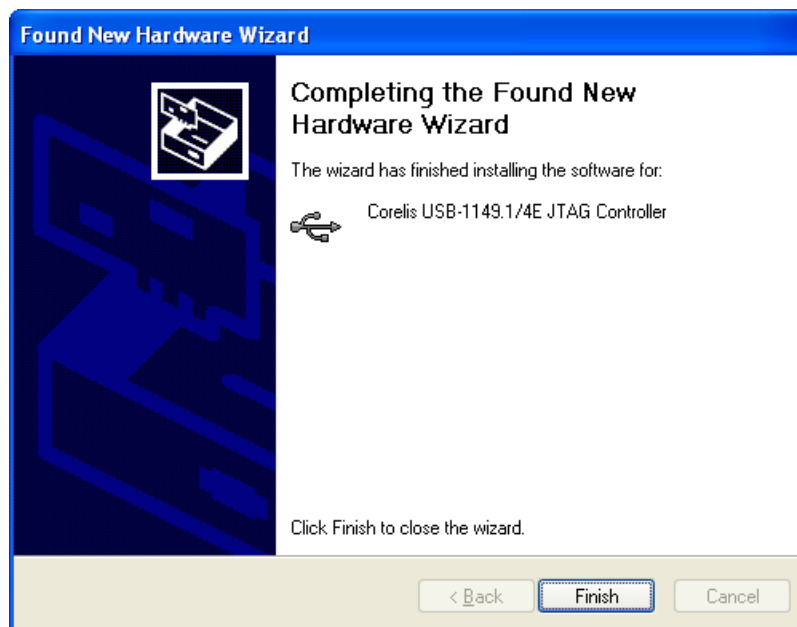

Figure 2-3. Installation Successfully Completed
6. After the necessary files are copied to the system, the following dialog box, Figure 2-3, will pop up indicating that the device driver is successfully installed.